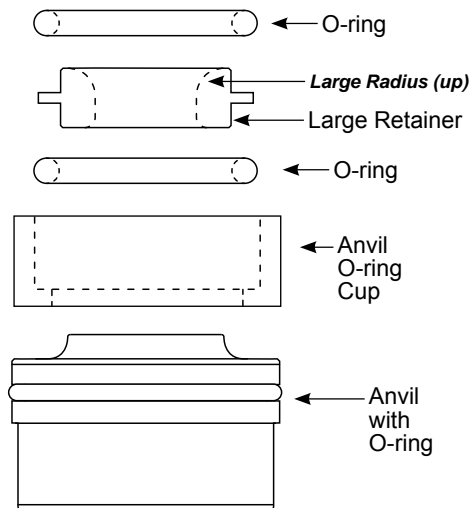

Fig. 15 - Insert O-ring into Anvil O-ring Cup, then insert Large Retainer (with large radius up), then insert other O-ring.
and the two (2) large retainer o-ring seals in the order shown in **Fig. 15** and assemble into the anvil o-ring cup.